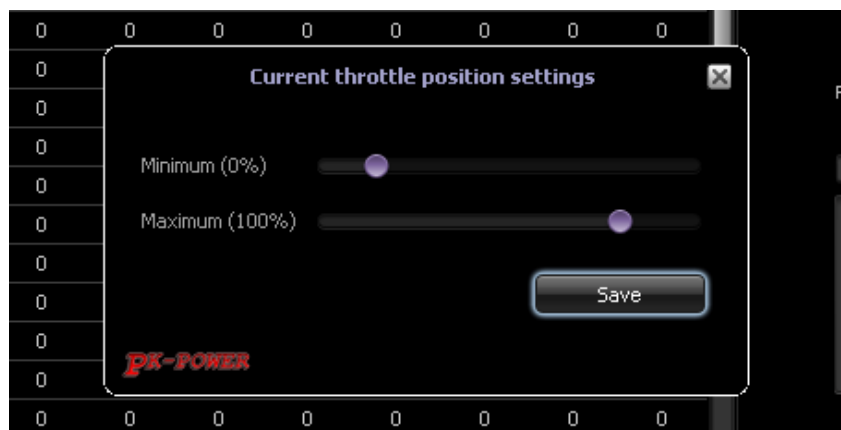

Fig. 3.1
5. A new window with two slide controls opens (Fig 3.1)